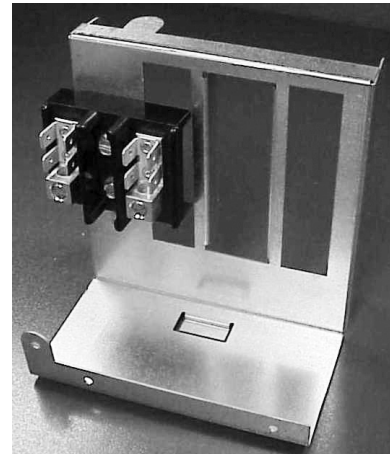

Figure 6. Circuit Breaker Bracket with
1. Attach the supplied power terminal block to the circuit breaker bracket with the supplied screws as shown in Figure 6 \(page 8\).